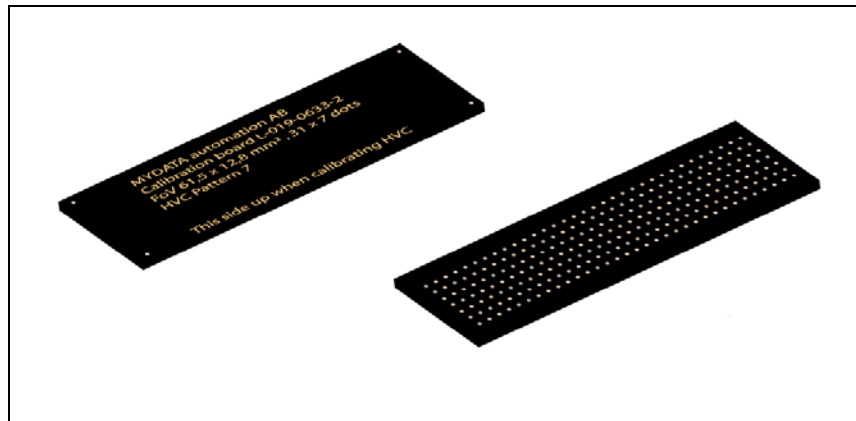

Figure 4-28. L-019-0633-2 Calibration plate.
- When prompted, place the calibration plate on the area calibration background (If not already done, insert the area calibration background as described in step 2 on page 4-13). The calibration plate should be placed on the calibration background with the text facing up, see Figure 4-28.